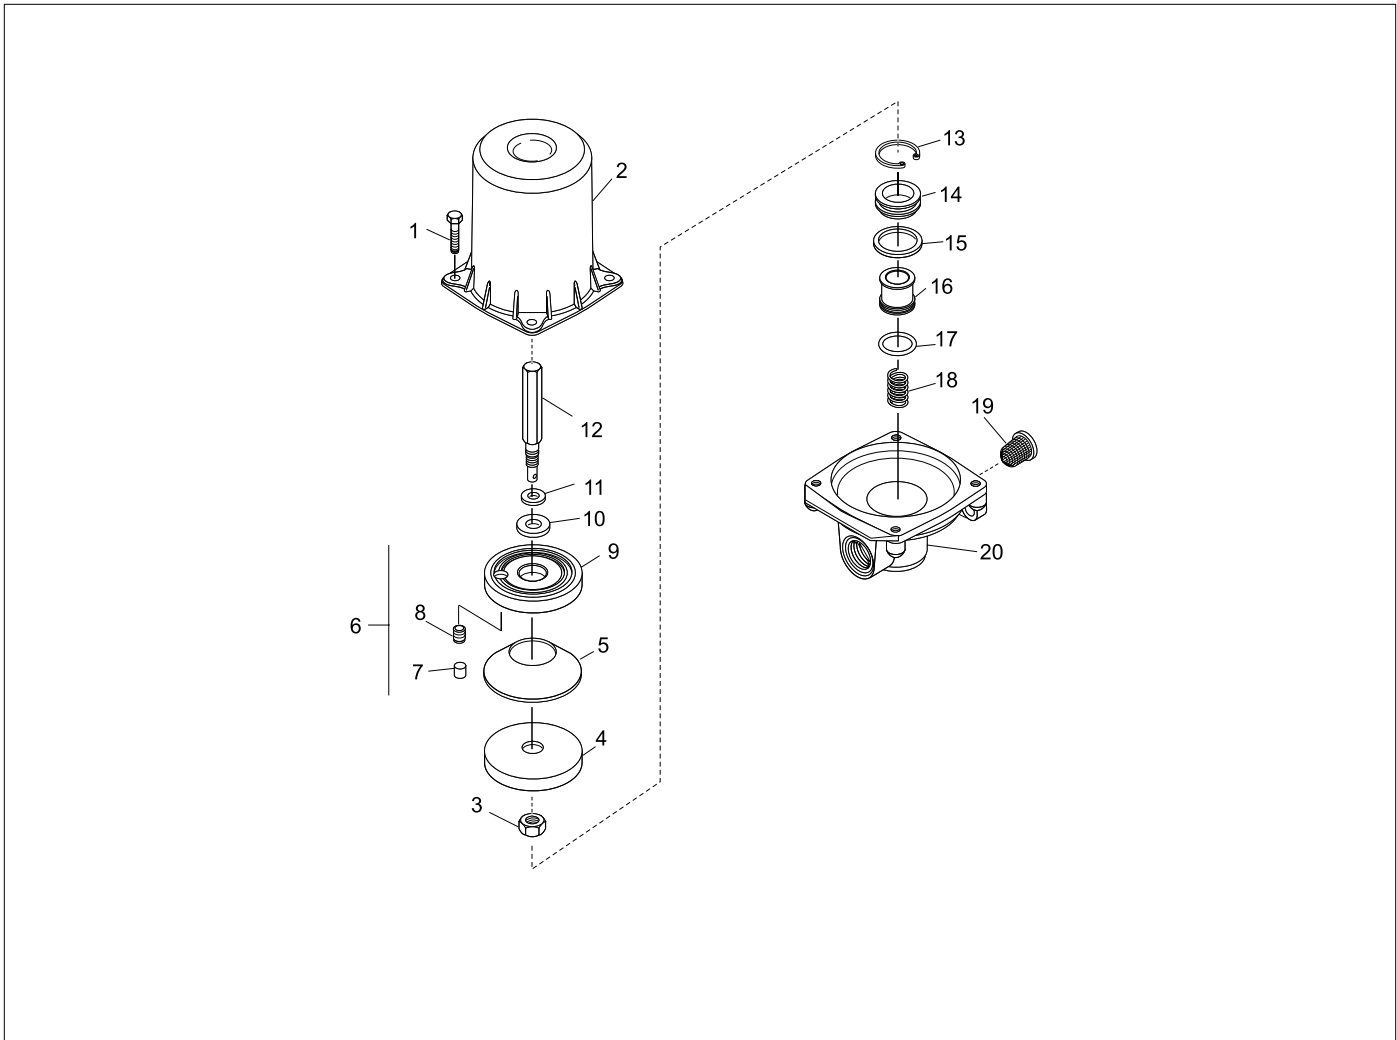

Figure 4 - #8 Vent Valve Portion - Exploded View
9.1.2 Remove the silencer (10) from the elbow (11), the elbow (11) from the pipe nipple (12) and the nipple (12) from the Vent Valve Portion (13). (Figure 4)
⚠ 9.3 ASSEMBLY (Refer to Figure 4)